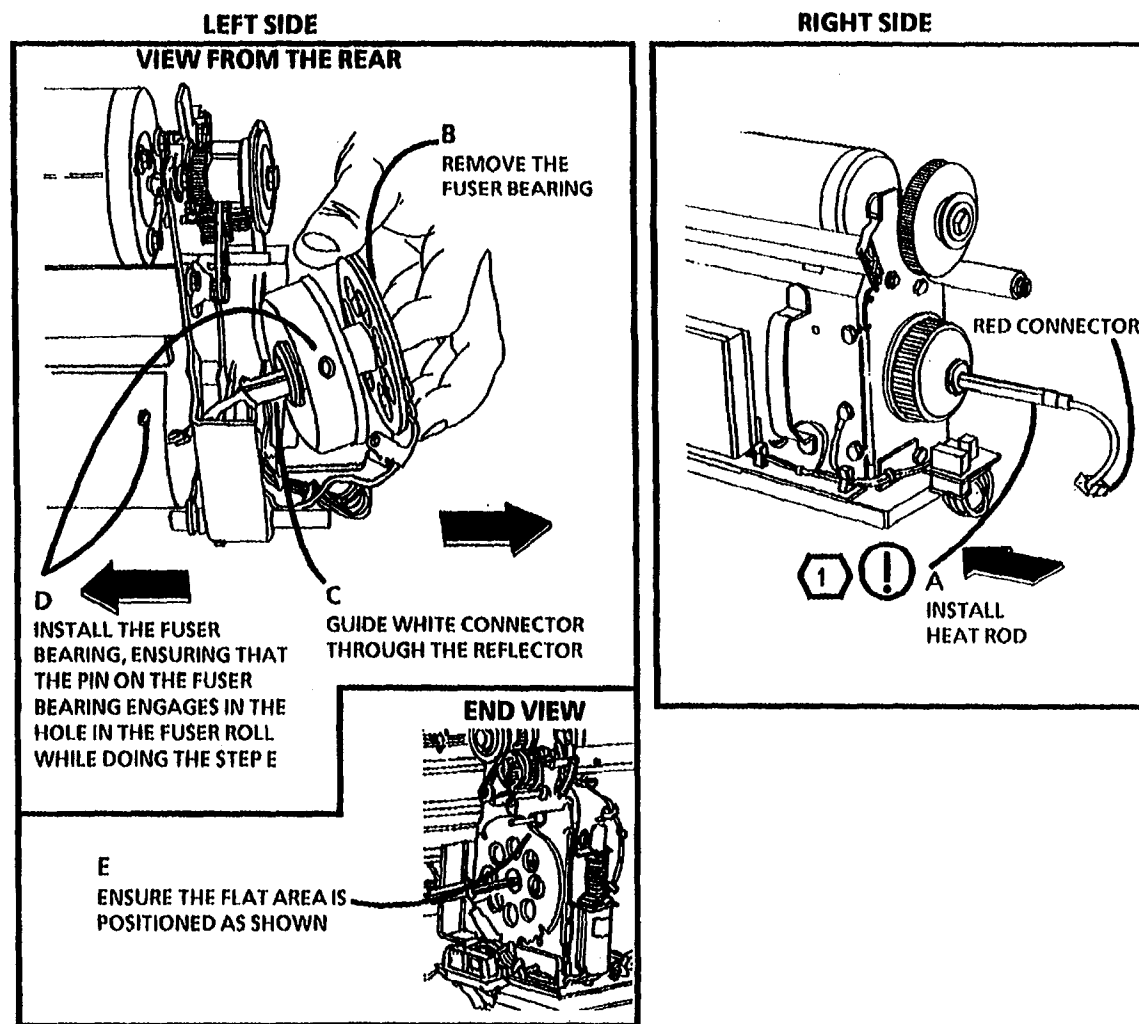

Figure 6. Install the Heat Rod
1. (Figure 6): Install the Heat Rod.